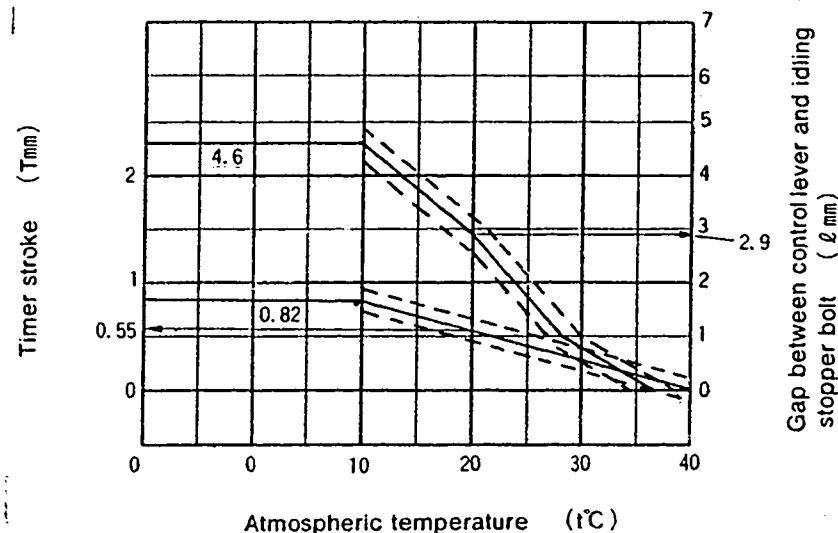

Fig. 2
1. Calculate the timer stroke from Fig. 2 according to the atmospheric temperature at the time of adjustment.
Formula for calculating Fig. 2  $10 \leq t \leq 20$   $T = -0.027t + 1.09$
1. Calculate the block gauge dimension  $\ell \pm 0.05$  mm from Fig. 2 according to the atmospheric temperature at the time of adjustment.
2. Insert the block gauge (thickness gauge) selected in Step(1) above between the bracket and the idling stopper bolt.